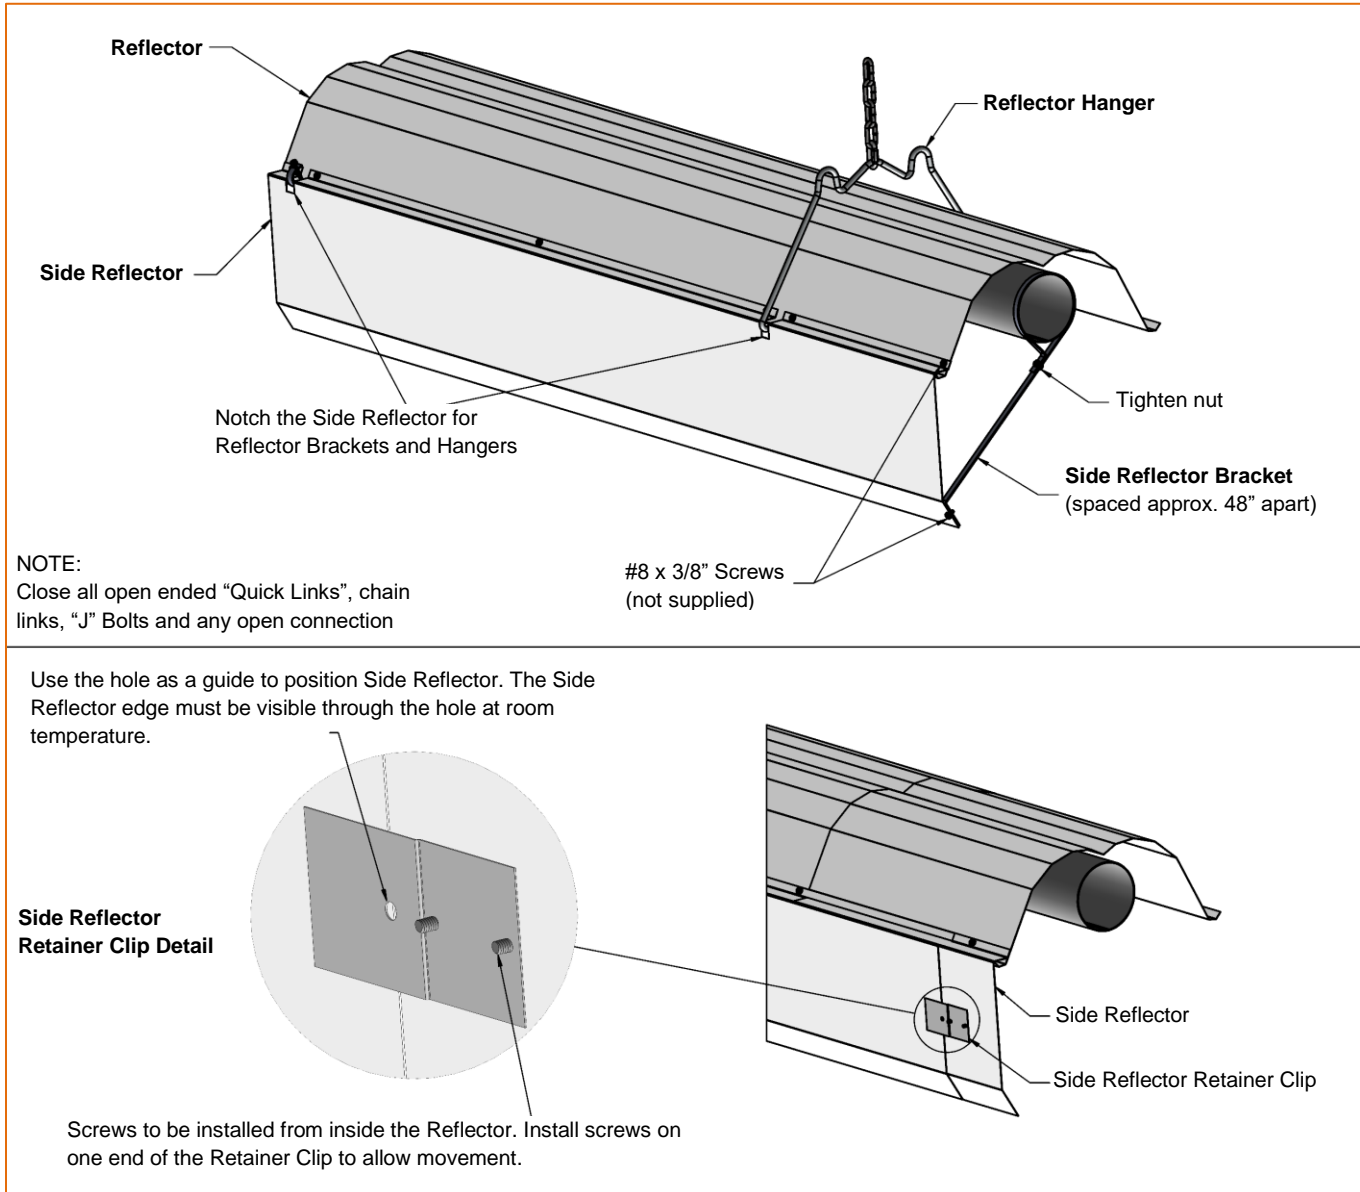

Figure 26: Side Reflector Installation Detail
Side Reflectors are 124" (3150 mm) long. Fasten one Side Reflector per main Reflector tightly with #8 x 3/8" screws spaced about 18" (500 mm) apart. Install three (3) Side Reflector Brackets per Side Reflector, spaced about 48" (1200 mm) apart, using #8 x 3/8" screws. DO NOT install brackets where Reflectors overlap. Refer to Figure 26 for details.